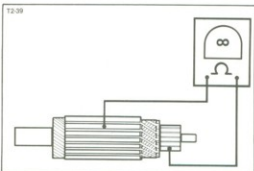

Figure 5-17. Armature Ground Test
5. See Figure 5-17. Touch one probe of the ohmmeter to the armature core and the other probe to any commutator segment. There should be no continuity (infinite ohms). Any other reading indicates a grounded armature which should be replaced.